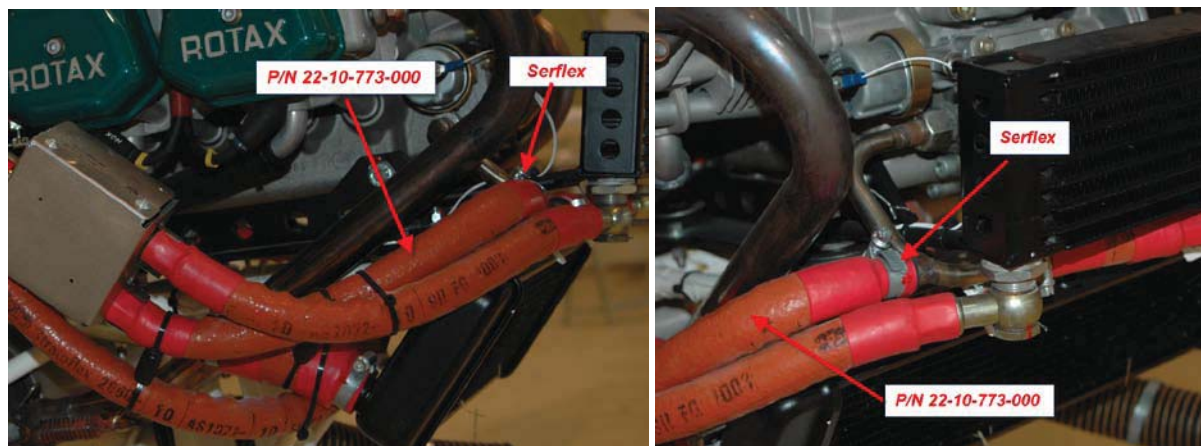

Figure 7 – P/N 22-10-773-000 installation
- 11** Install the “Assy tube from thermostatic oil valve to metallic oil tube” (22-10-773-000) as indicated in Figure 7. Use a serflex to fit the new tube on the metallic oil tube.